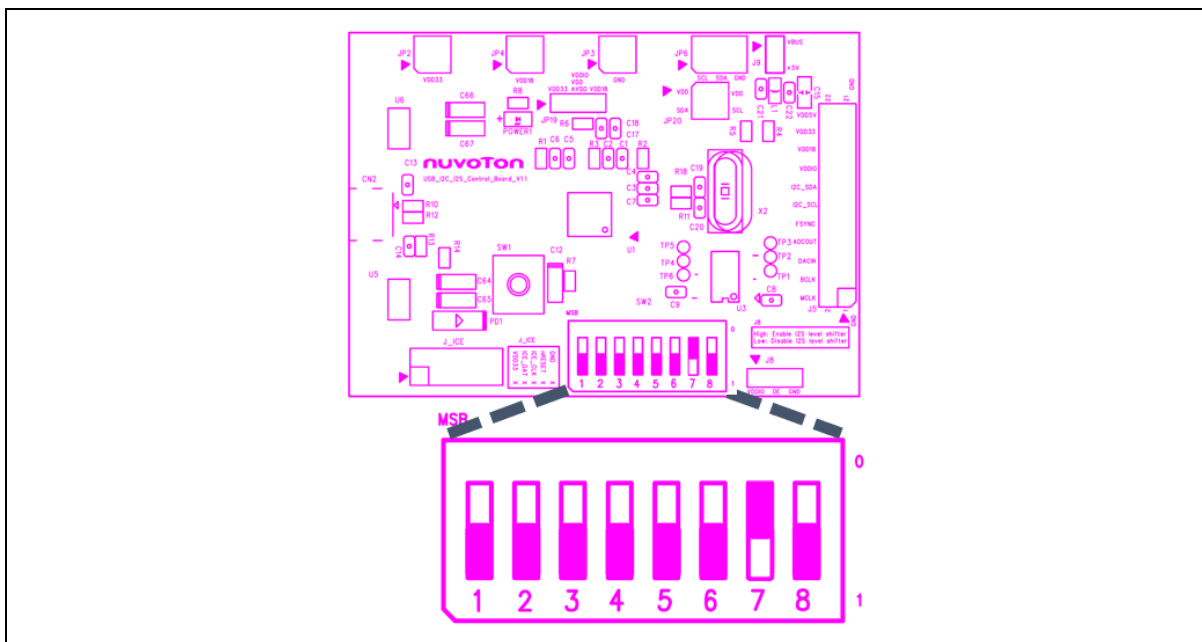

Figure 2-3 PIN Status of NU-NAUSB2I2C SW2
1. Confirm that pin 7 of SW2 of NU-NAUSB2I2C is high and the rest are low level, as shown in Figure 2-3.